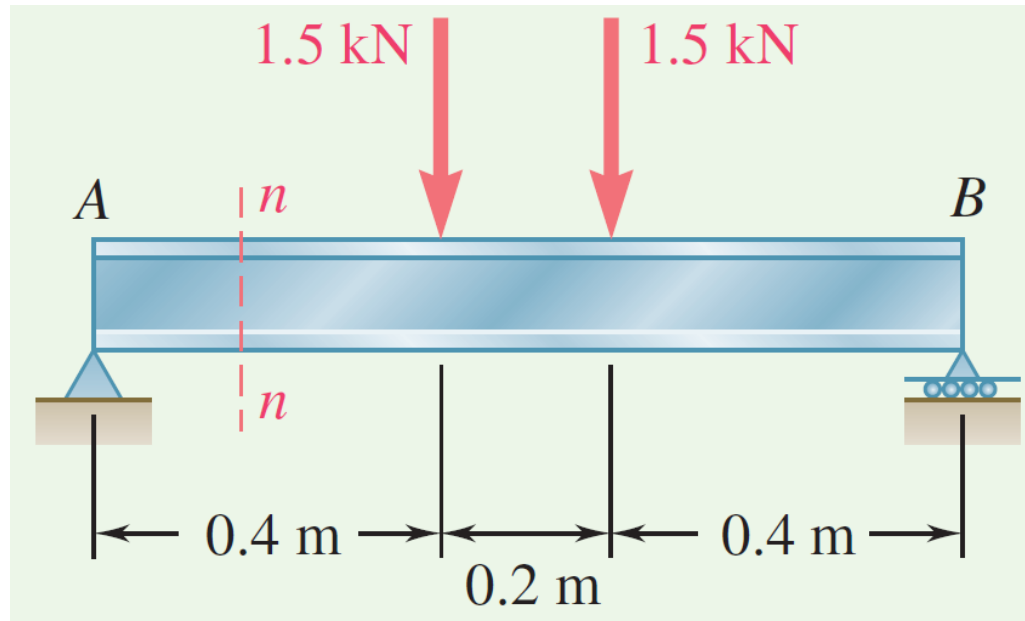

Fig. 1 The beam and loading pattern
3. Beam  $AB$  is made of three plates glued together and is subjected, in its plane of symmetry, to the loading shown in Figure 1. Knowing that the width of each glued joint is 20 mm, determine the average shearing stress in each joint at section  $n-n$  of the beam. The location of the centroid of the section is given in the Figure 2 and the centroidal moment of inertia is known to be  $I = 8.63 \times 10^{-6} \text{ m}^4$ .